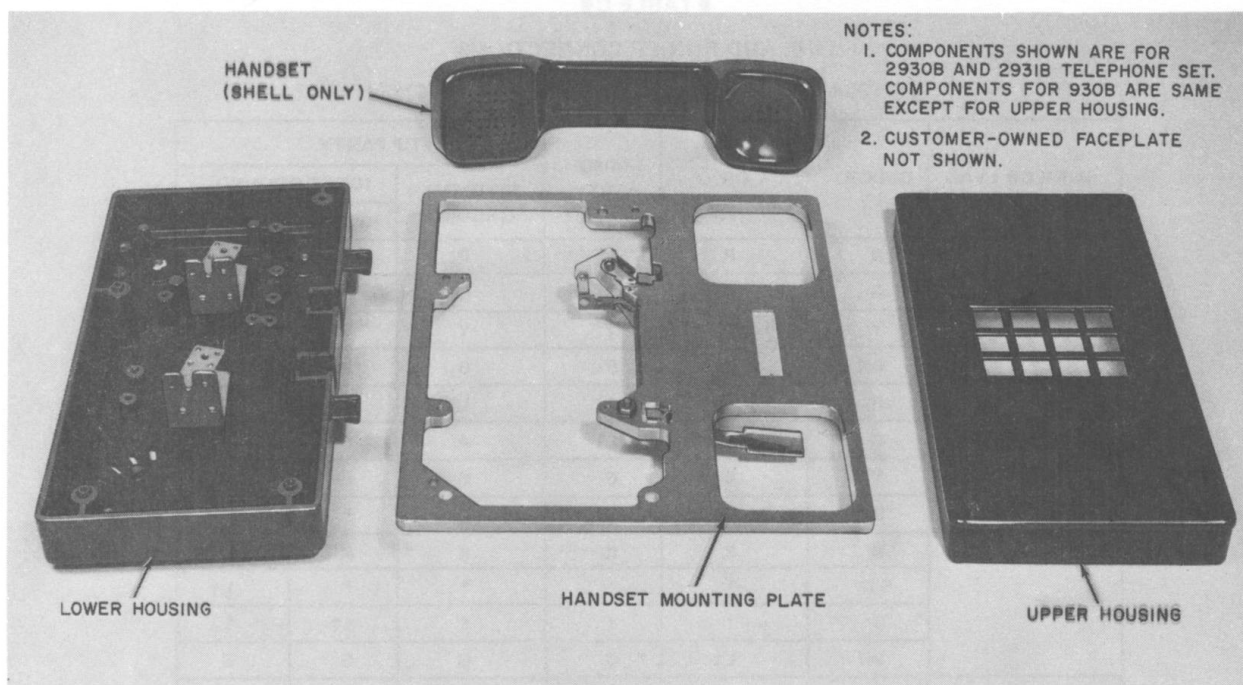

Fig. 7— Customer-Owned Components of B Code Sets
- (3) Remove upper housing and handset mounting plate (Fig. 7).